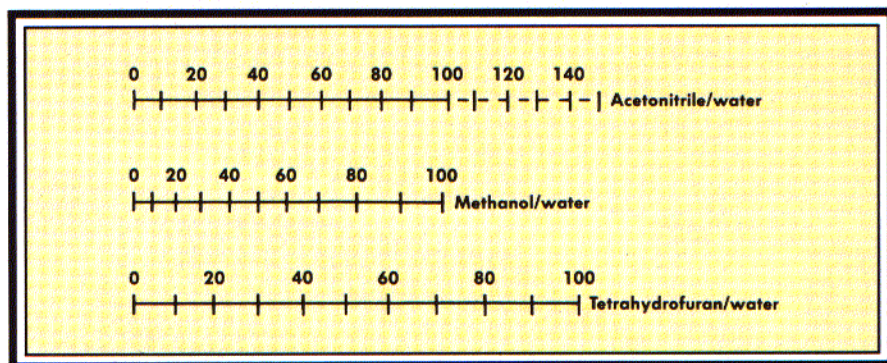

FIGURE 2: Nomogram for estimation of isoeluotropic mobile phases. Based on data from reference 1.
ganic solvent in the mobile phase in order to change the selectivity — for example, change from acetonitrile to methanol or tetrahydrofuran (THF). It would be nice to switch to another solvent without having to start over with the adjustment of solvent strength to get k' in the right range. We can do that with the aid of the nomogram in Figure 2. This figure is based on a large number of compounds (1) and can be used to convert from one solvent to another while maintaining approximately the same solvent strength. Small adjustments of the new mobile phase will be required for most samples, but with Figure 2 and the 10% rule, you should be able to find an isoeluotropic (equal-strength) mobile phase easily.
To use Figure 2 to convert from one solvent to another, locate the present solvent composition on the appropriate line — for example, 50% acetonitrile/water. Now draw a vertical line through the other solvent lines; the intersection of these lines indicates the isoeluotropic mobile phase compositions. Thus, 50% acetonitrile/water is equivalent to 60% methanol/water or about 37% THF/water.